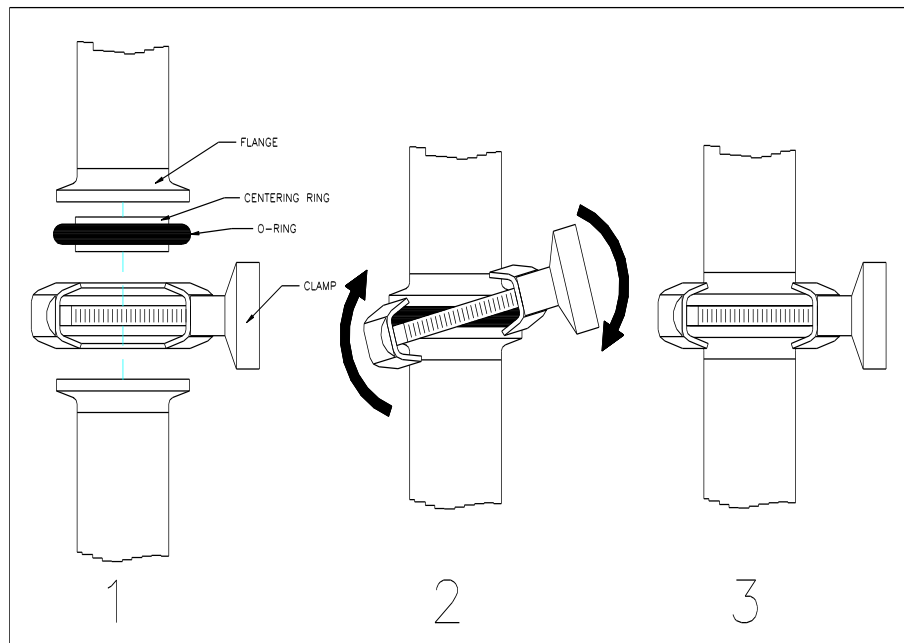
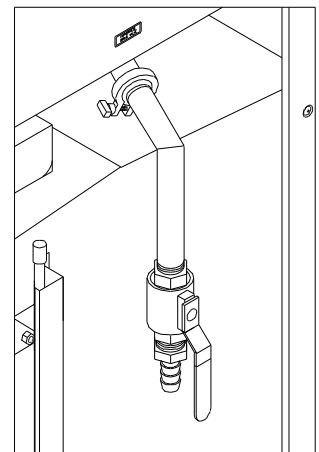

Figure 1
Figure 2
2. Place tower on one side of the tower exit and connect it as shown in **Figure 1**. Do not over tighten the clamp. Connect other side of tower in the same manner. When both sides are in place with the clamp properly positioned, tighten clamps to firmly hold tower in place.
- While holding the flanges together, lift the clamp up and twist it on as shown in **Figure 1 #2**.
- Tighten the 3/4" ball valve onto the drain extension making sure that the handle is opposite of the flange as shown in **Figure 2**. Tighten barb fitting into valves other side.
- Place complete drain assembly onto boiling tank drain using the clamping technique shown in **Figure 1**. Be sure to place drain pointing downwards and parallel with holding tank as shown in **Figure 2**.